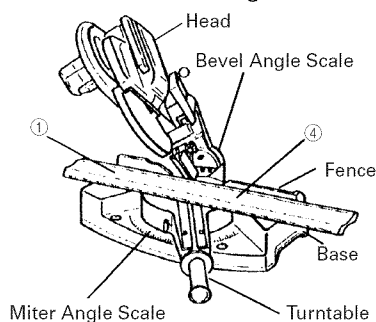

Fig. 38
(1) Setting to cut crown moldings at positions ① and ④ in Fig. 36 (see Fig. 38; tilt the motor head to the left):
- ① Turn the turntable to the right and set the Miter Angle as follows:
- ② Tilt the motor head to the left and set the Bevel Angle as follows: